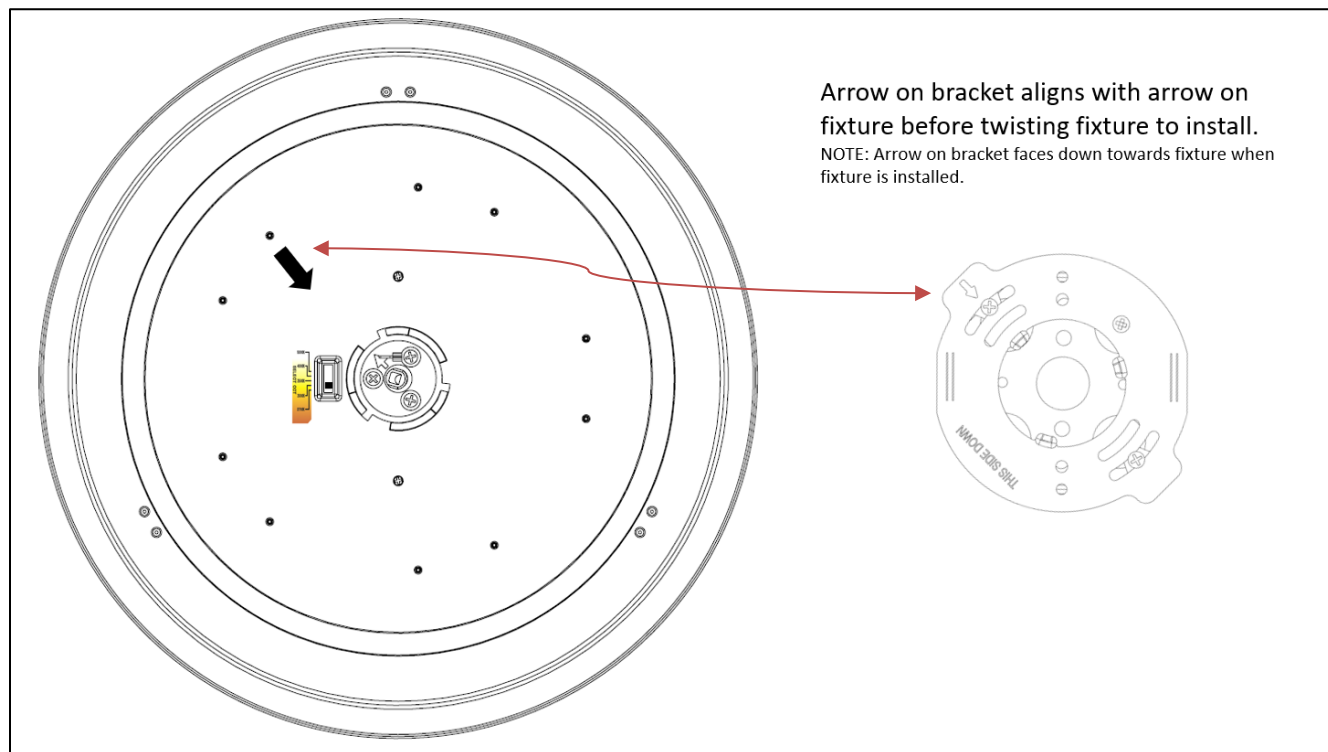

Figure 7
8. **Align the straight arrow on the Mounting Puck** on Fixture Assembly **with the straight arrow on the Mounting Bracket**, as shown in *Figure 7*. The Arrows on the Fixture and Mounting bracket **MUST** be aligned to install fixture properly.